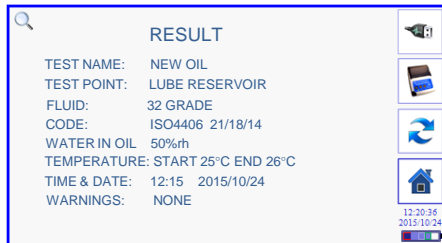

Figure 4: Results Screen
- Single or multiple results are displayed on-screen. Results can be stored, uploaded or printed using the right hand icons. (Fig. 4)